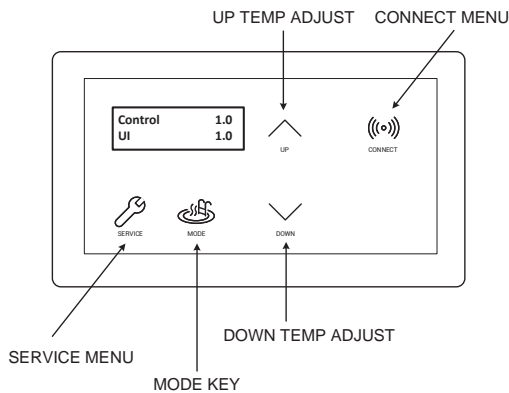

Figure 8. Heater Control Display
The heater display is located in the front panel of the heat pump, covered with a door. All operation and settings of the heater control are accomplished through the use of the five (5) touch keys of the user interface. These keys are displayed in Figure 8.